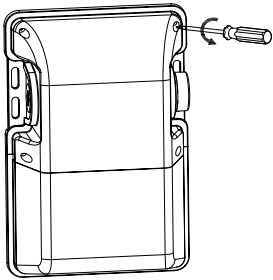

Fig 1
1. Unscrew the 4xM3 screws on the MWP front cover (driver box). (Fig 1)